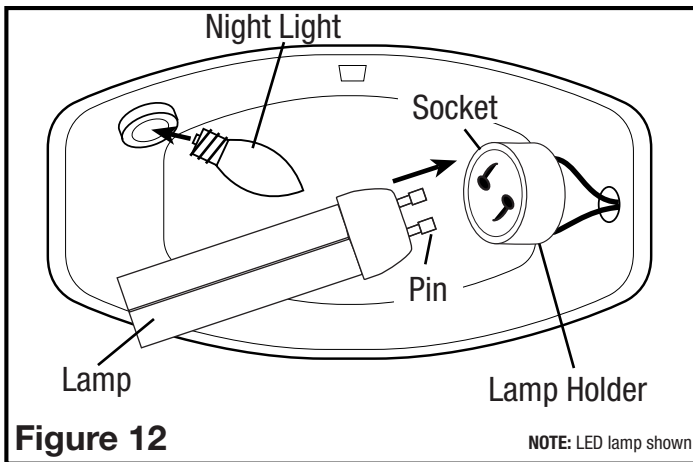
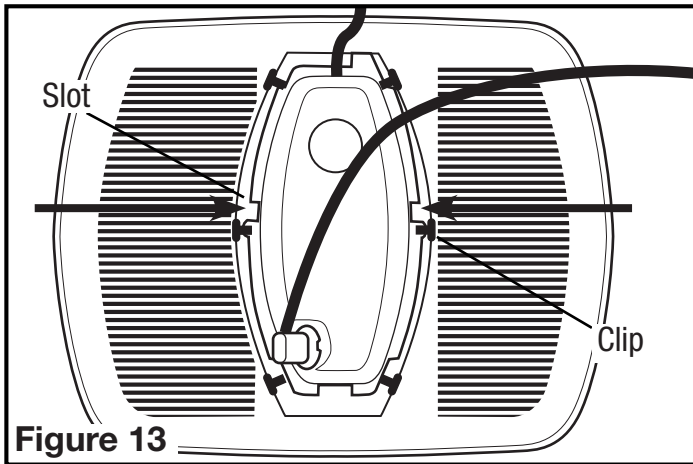

Figure 12
Figure 13
4. Install the included lamp into the lamp holder by lining up the pins on the lamp base to the socket of the lamp holder and turning the lamp body clockwise until the lamp snaps into place and is firmly seated in the lamp holder. Install a 4 watt maximum type C7 (candelabra base) night light (not included) into the side lamp holder (**Figure 12**).
5. Install the reflector onto the grill by placing the slots on the side of the reflector over the lens clips near the center of the grill. While squeezing the middle of the reflector, slide it so that the plastic notches rest under the lens clips and the reflector feels secure (**Figure 13**).
3. **Changing the Lamp:** Disconnect power to the unit. Remove grill by pulling downward on grill and squeezing grill springs together to release from housing (**Figure 13**). Remove Reflector from grill by sliding the reflector notches from beneath the lens clips on grill. (**Figure 12**).